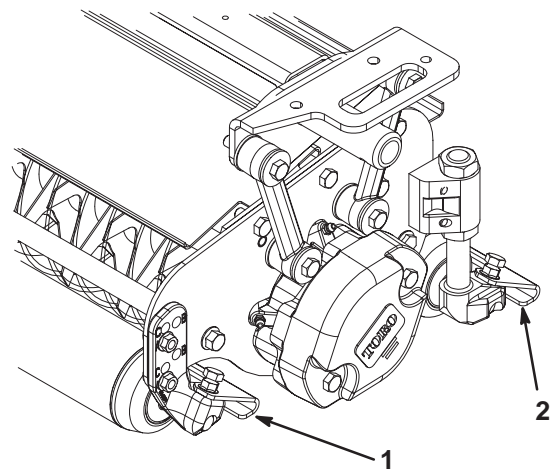

Figure 5
1. Loosen flange nut securing roller scrapers (Fig. 5).